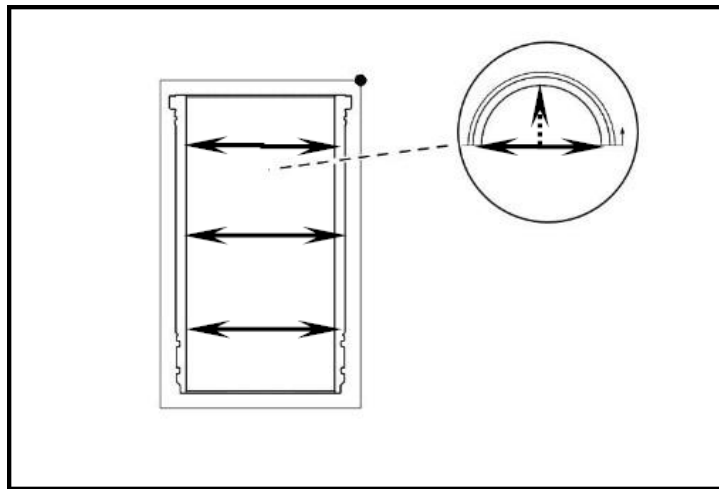

Figure 93.
- With the liner in place check the upper, middle, and lower working areas for any burnishing (Figure 93).